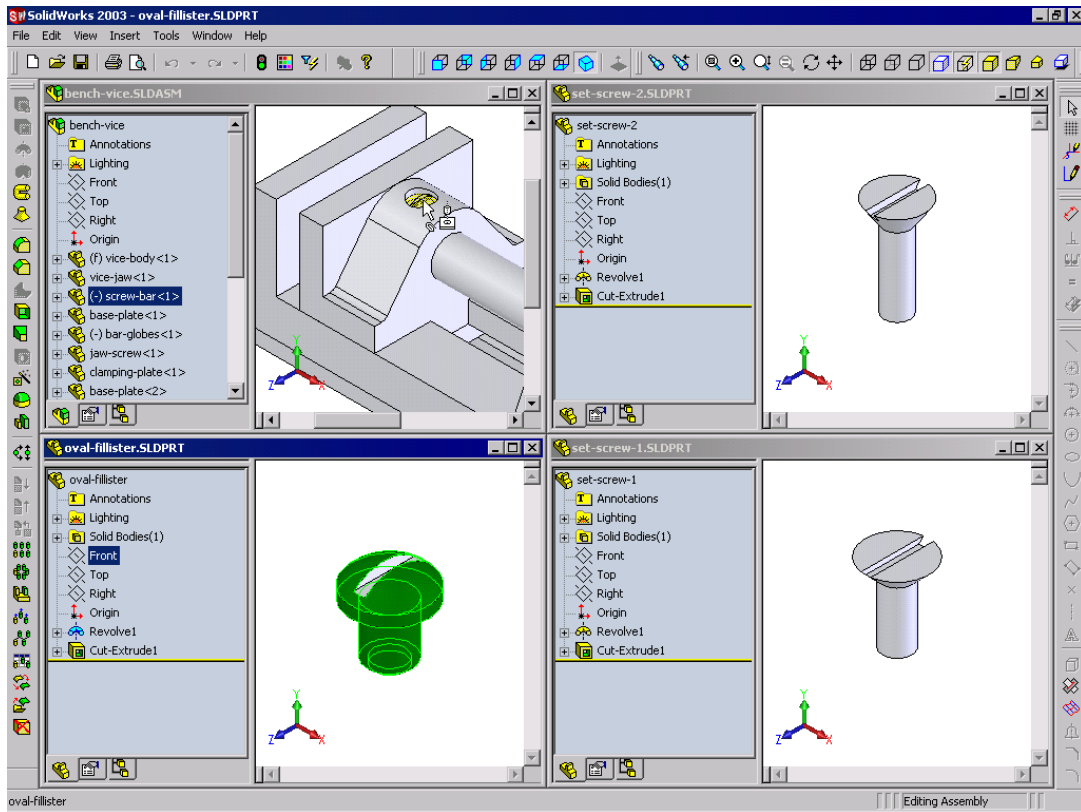

Figure 10-73 Dragging the Oval Fillisters in the assembly using feature-based mates
4. Select the **Revolve** feature from the **FeatureManager Design Tree** of the **Oval fillister** part document. Drag the cursor to place the component in the assembly as shown in Figure 10-73.